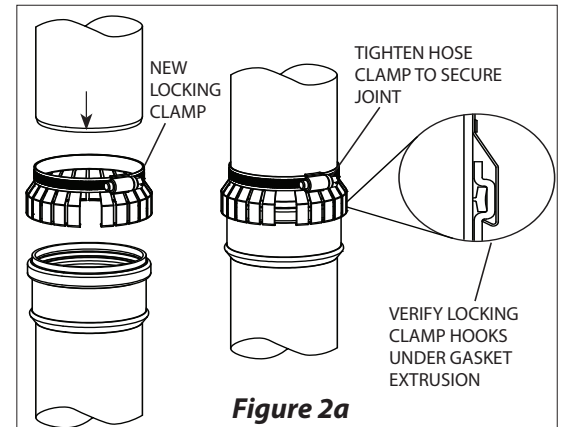
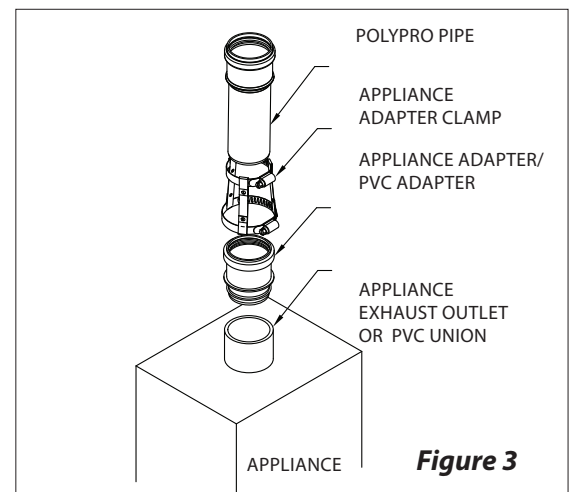
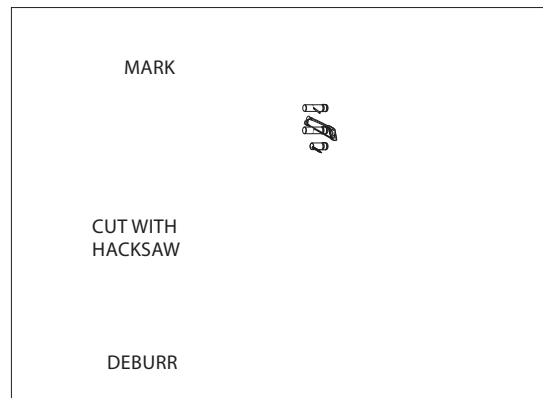

Figure 2a
Figure 3
Figure 5
Locking Clamp (New Design): Verify the gasket is seated evenly inside the groove in the female end. Assemble the joint by passing the male end of the Polypro Pipe through the Locking Clamp on the hose clamp side and into the female end of the PolyPro pipe, (Fig.2a). Hook the Locking Clamp onto the gasket extrusion on the female end and tighten down on the hose clamp.
1. If the appliance has a PVC/CPVC female outlet use the Appliance Adapter/ PVC Adapter and Clamp. (**Fig.3**)
- Pipe lengths may be cut to length (**Fig.5**). If the Locking Tab is removed use the new Locking Clamp (Fig.2a PPS-LC) or alternative clamp (Fig.3 PPS-PAC / PPS-LBC) for the connection.